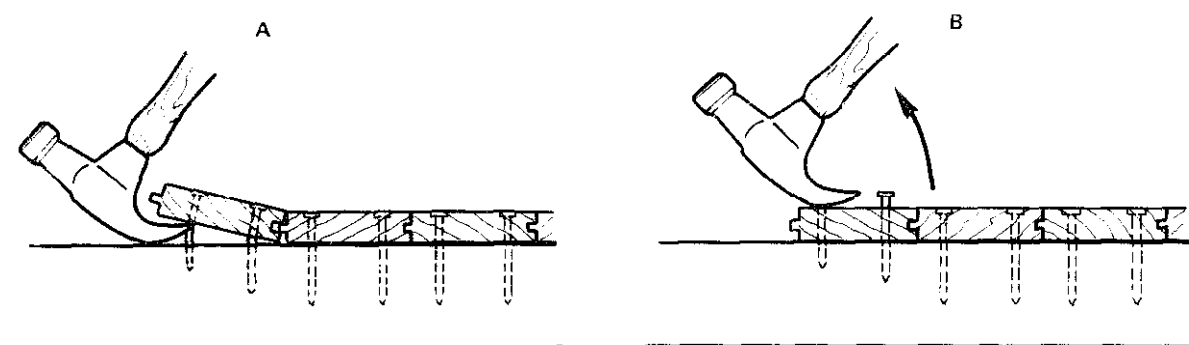

Fig. 11-35 Alternate method of withdrawing a nail.
4. Sometimes it is possible to pry the nailed board loose with the claw hammer as shown in figure 11-35. Then strike the board back to the nailed position with a sharp blow of the hammer. This causes the nail to project through the face of the board, B. The nail can then be withdrawn.